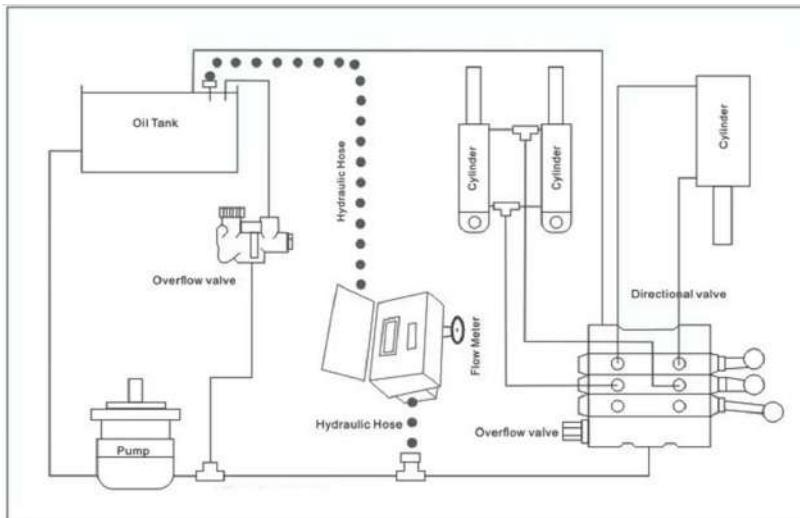

图 A2
T-type connection test (please refer to Figure A2 for the connection method of the flow tester)
4.2 System and overflow valve testing (see Figure A2)